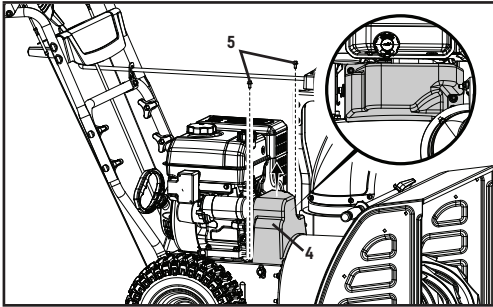

Figure 47
10. Install the plastic belt cover (4) using two M6 × 16 bolts (5) set aside from an earlier step. Torque until snug. Do not overtighten or you risk damaging the plastic belt cover (Fig. 47).